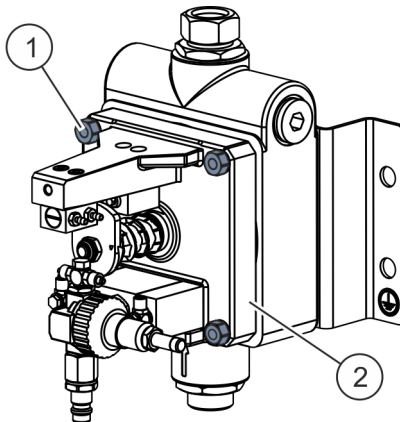

Fig. 9: Timing case
7. ➤ Loosen all 4 nuts (Fig. 9/1) and remove the timing case (Fig. 9/2).